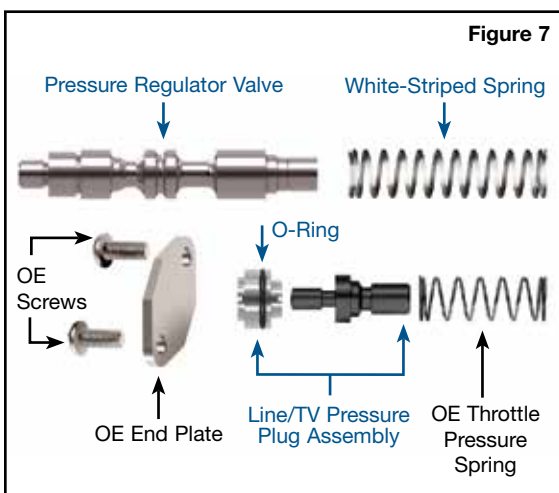

Figure 7
- a. At the opposite end of the pressure regulator bore, reinstall the OE throttle spring, followed by the Sonnax oversized line/TV pressure plug assembly (Figure 7).